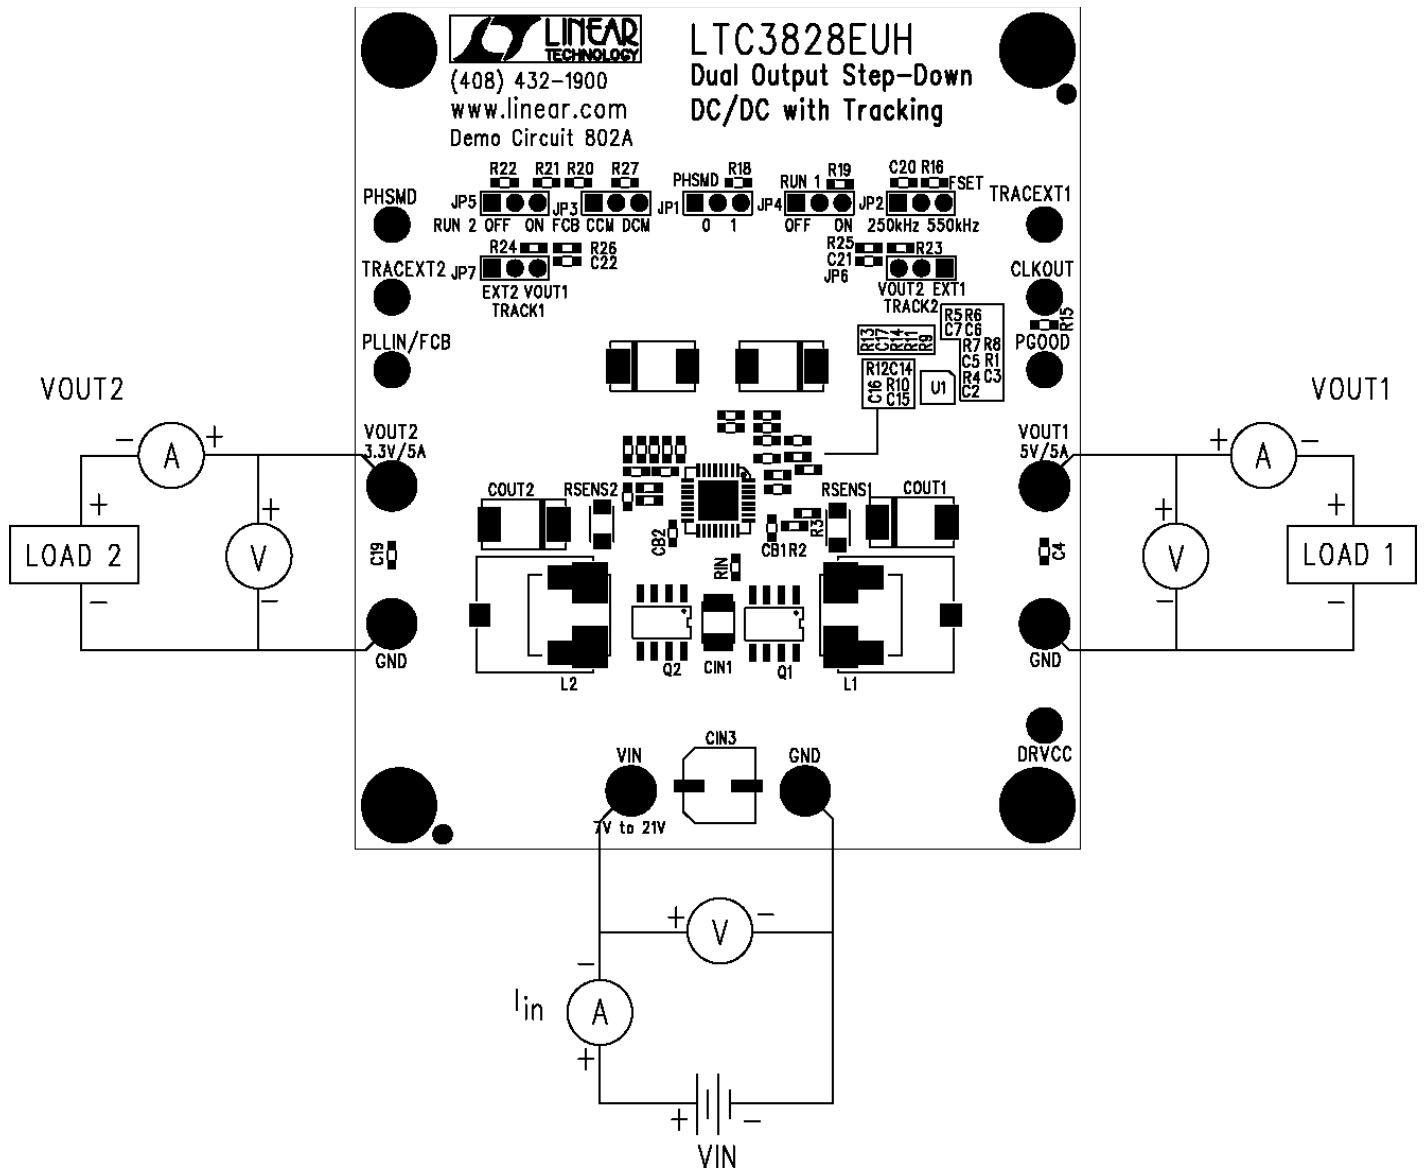

Figure 1. Proper Measurement Equipment Setup
Demonstration circuit 802 is easy to set up to evaluate the performance of the LTC3828EUH. Refer to Figure 1 for proper measurement equipment setup and follow the procedure below:
2. With power off, connect the input power supply to VIN and GND. Connect the load between VOUT1 and GND, VOUT2 and GND. Preset the load current at 0A (minimum). Refer to Figure 1 for correct test set up.